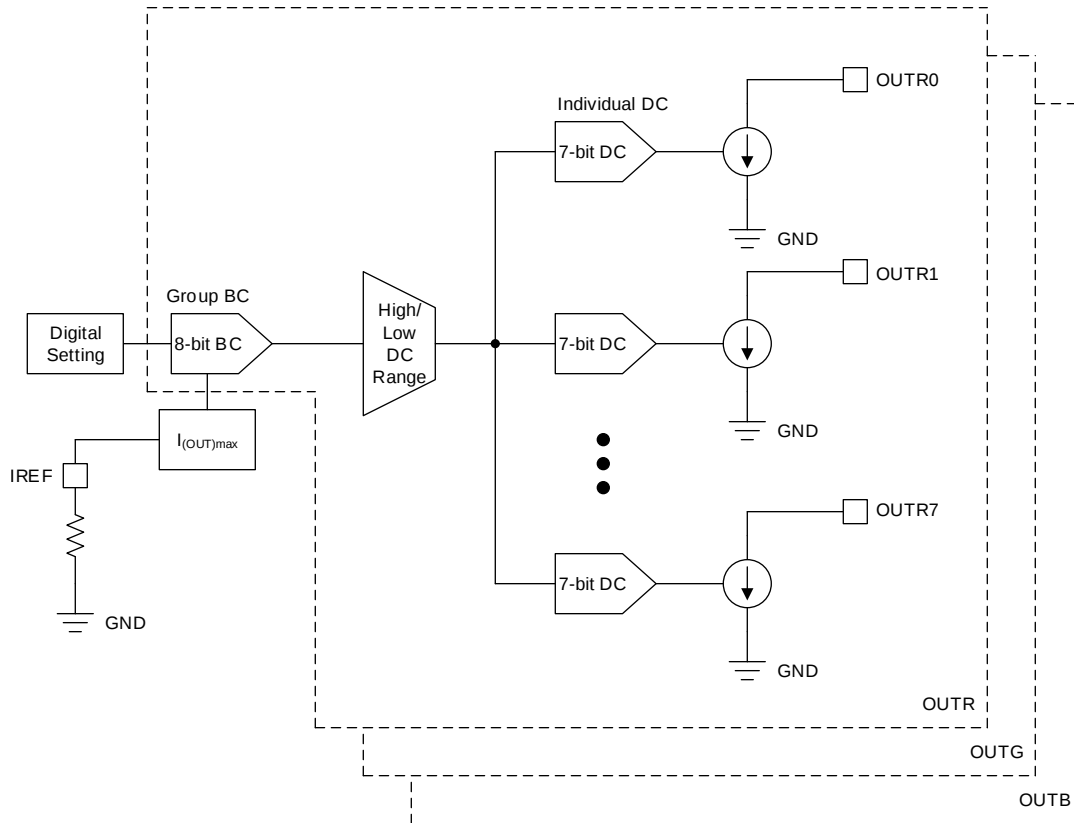

图 21. Brightness Control and Dot Correction Block Diagram
The TLC6C5724-Q1 device implements an 8-bit group brightness control (BC) and 7-bit individual dot correction (DC) to calibrate the output current. The 24 output channels are divided into three groups: OUTRn, OUTGn, and OUTBn. Each group contains 8 output channels. There are two configurable ranges for the DC value of each group. One is the low DC range with output current from 0 to 66.7% $I_{(OUT)max}$. The other is the high DC range with output current from 33.3% $I_{(OUT)max}$ to 100% $I_{(OUT)max}$. The IREF resistor, BC, DC, and DC range together determine the channel output current, as shown in 图 21. 公式 2 and 公式 3 are the detailed output current calculation formulas.